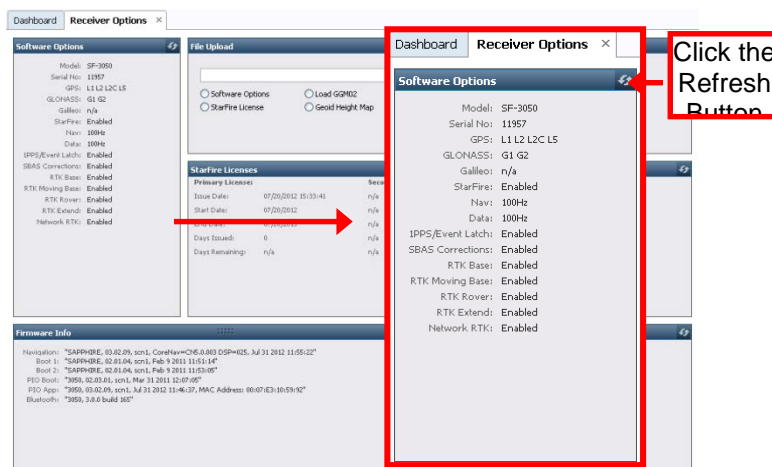

Figure 17: Software Options Window
35. Click  (refresh) on the *Software Options* window and check to ensure that all uploaded software options are displayed (see Figure 17).
46. To view all currently loaded software options, click  (refresh) on the *Software Options* window (see Figure 17).